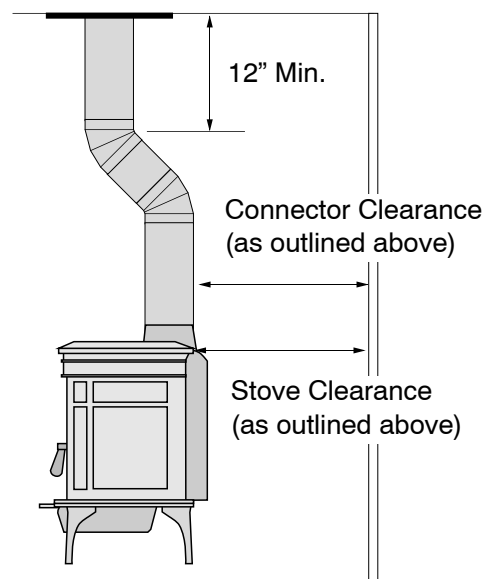

Figure 9
- If using offsets, use the connector clearance listed in Figure 9, **not the connector manufacturer's clearance**.